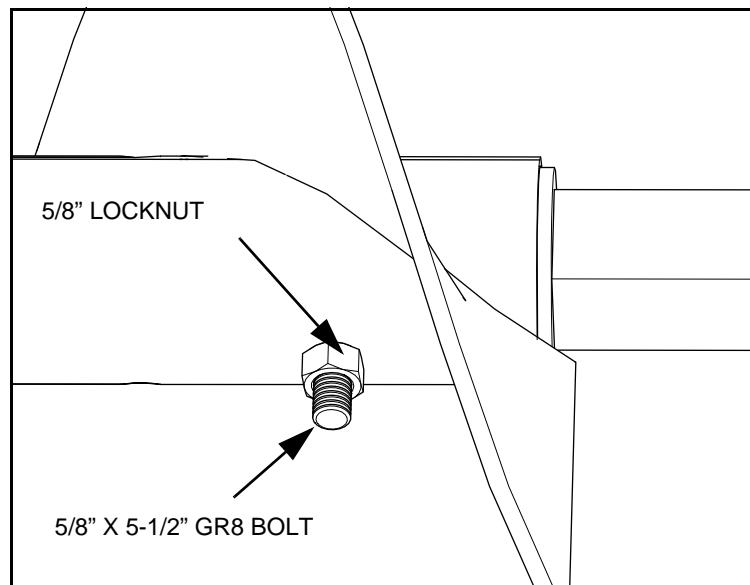

Figure 3.5 Check Boot Flight Bolt and Nut
1. The boot flighting comes pre-installed on the end of the lower tube flighting shaft (See Figure 3.5). Ensure that the flighting is fastened with a 5/8" X 5-1/2" GR8 bolt and 5/8" locknut before proceeding.